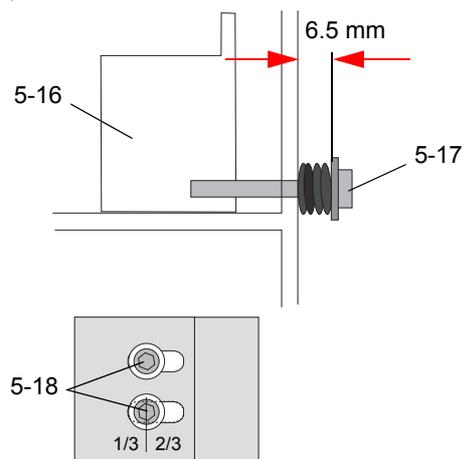

Figure 6-11 Tensioning the X-belt RoMa
- 6 Screw the belt tensioning screw (5-17) with washer and pressure spring into the belt take-up (5-16) until the distance between inner face of the washer and the frame of the instrument is 6.5 mm (this corresponds to a tension of 9 N). (See Figure 6-11, 'Tensioning the X-belt RoMa'.)